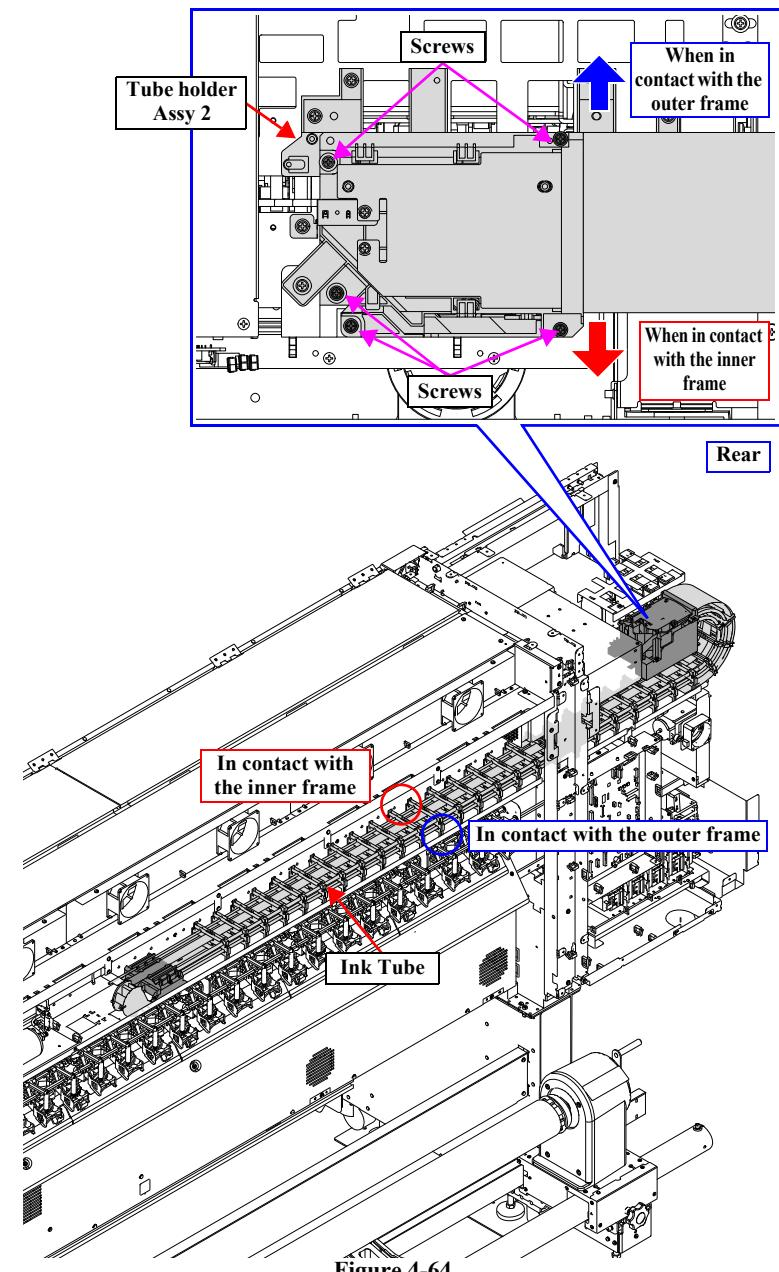

Figure 4-64.
6. If not improved, loosen the 5 screws of the tube holder Assy 2, and then move the Ink Tube in the direction of the arrow as shown Figure 4-64.